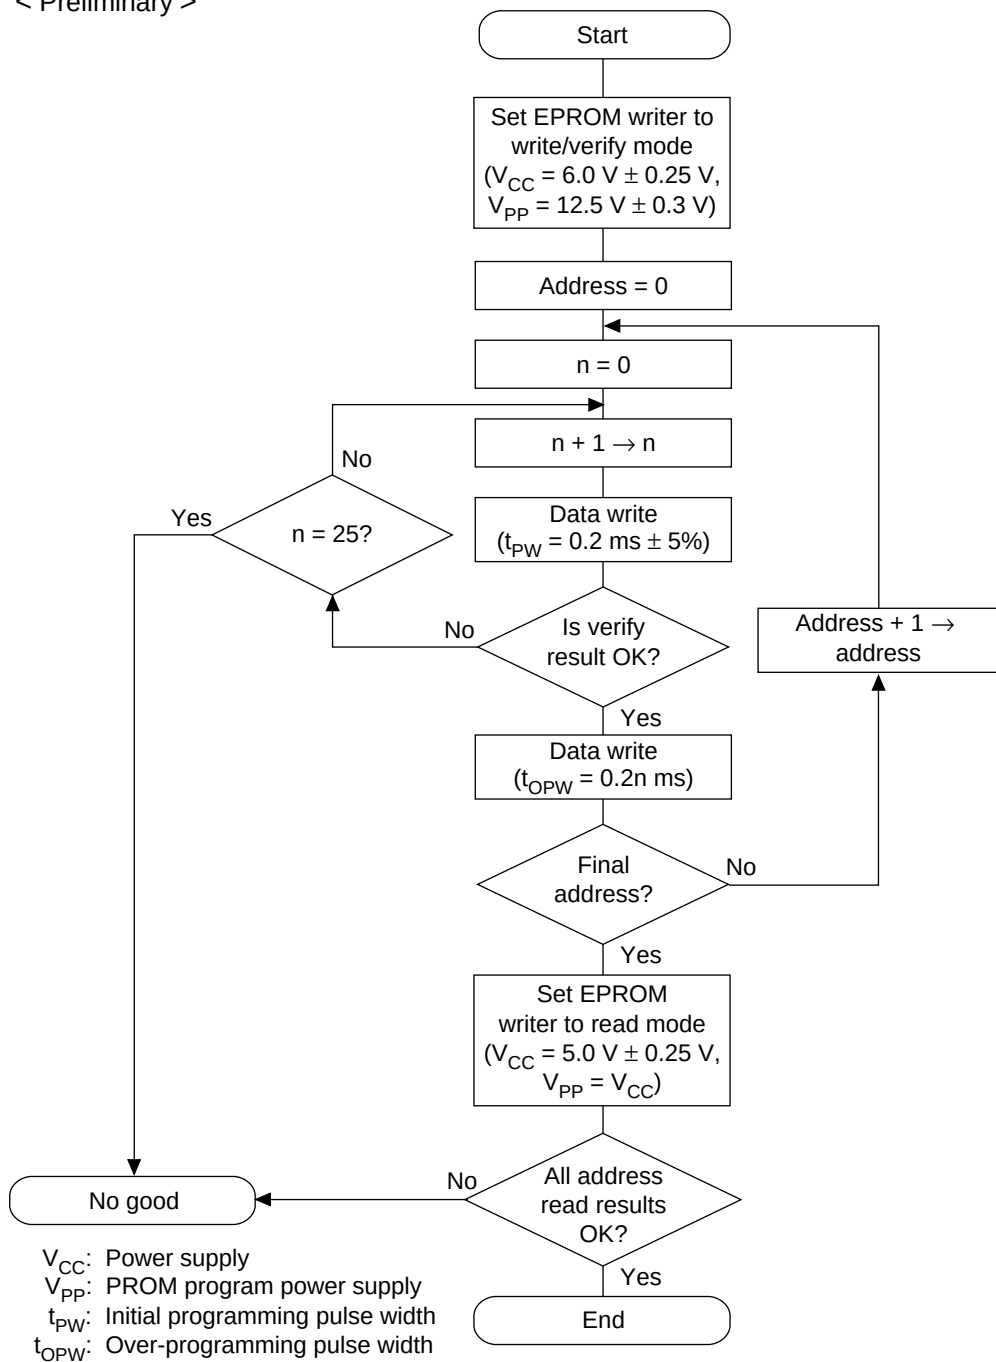

Figure 21.6 High-Speed, High-Reliability Programming Basic Flow
**Write/Verify:** Writing and verification can be done using an efficient high speed, high reliability programming format. This format allows data writing that is both fast and reliable without applying voltage stress to the device. Figure 21.6 shows the basic flow of the high speed, high reliability programming format.
| Address setup time                         | $t_{AS}$       | 2    | —    | —    | $\mu\text{s}$ | Figure 21.6 *1 |
\*3  $t_{OPW}$  is defined by the values noted in the flowchart (figure 21.6).